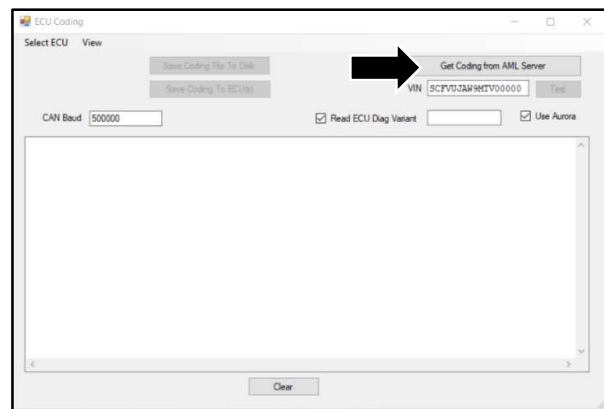

Figure 3
6. Select “Get coding from AML Server” (refer to Figure 3).